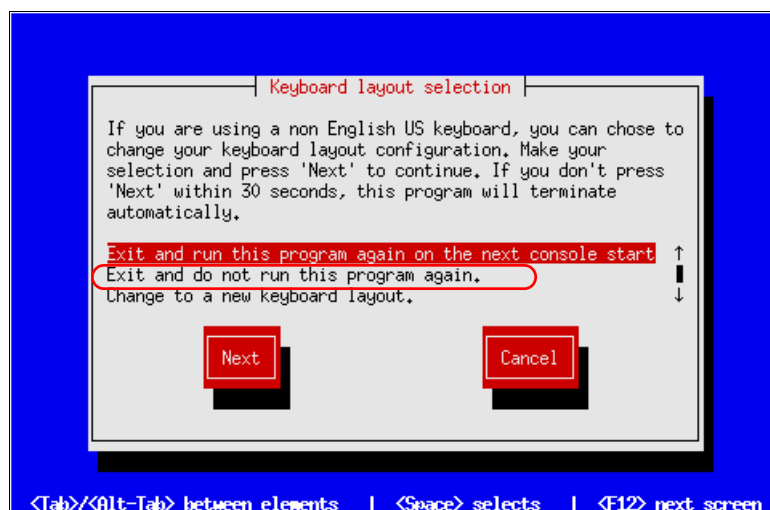

Figure 3-77 Keyboard layout selection
6. The Keyboard layout selection panel (Figure 3-77) allows for a non English US keyboard to be selected. The panel times out after 30 seconds if no selection is made. If you do not want to get this panel to be shown on subsequent boots, select the second option. Then, select **Next**.